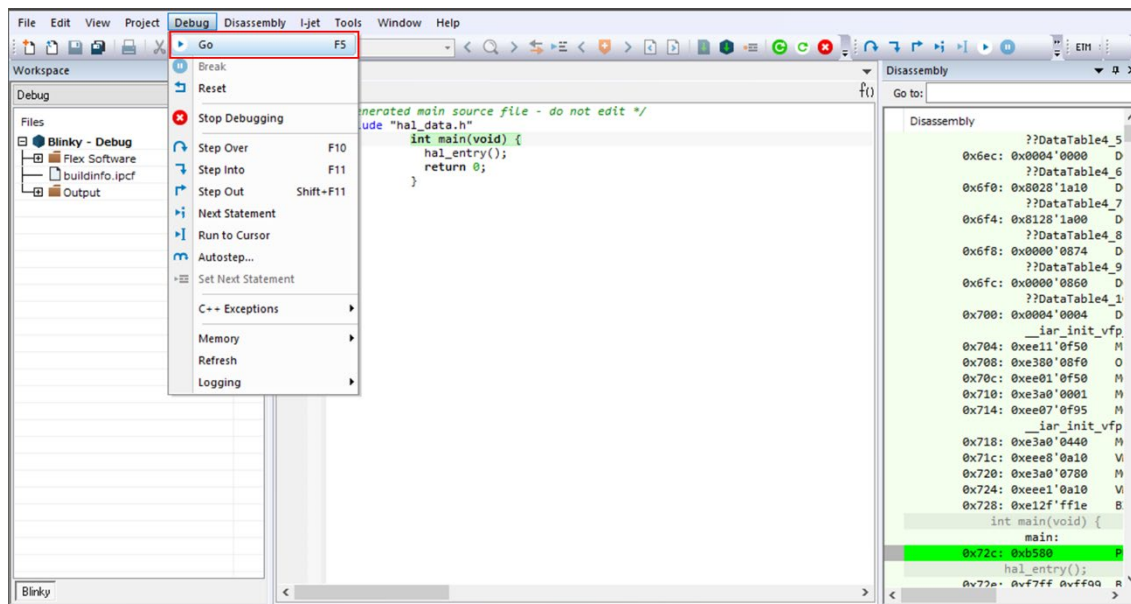

Figure 126. Go Button
5. Run the program of the primary project as shown in Figure 126 to copy the binaries of the secondary and subsequent projects to the internal RAM in the primary project. After the primary project reaches **hal_entry** in **main.c**, another core is executed. If the LEDs are blinking, proceed to the next step.